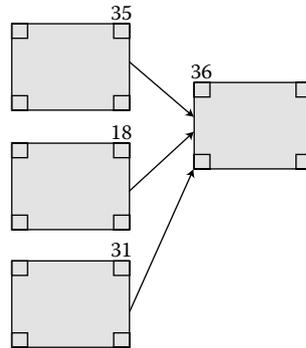
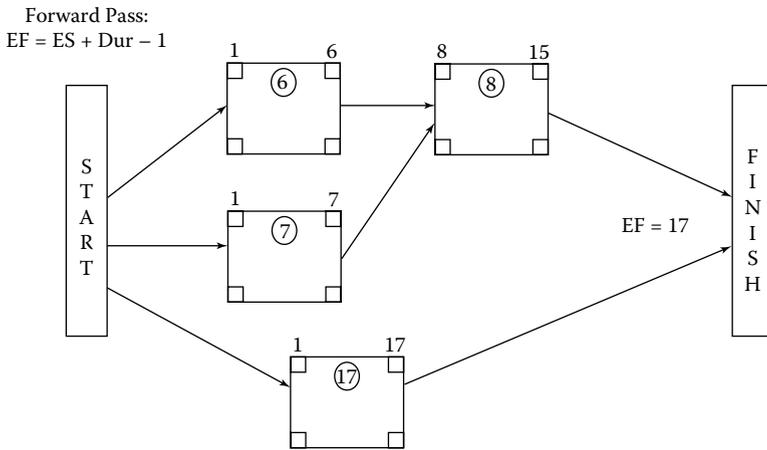

Figure 12.10 The “sink” activity.
Figure 12.11 A more complicated diagram.
An activity is called a sink if it calls for multiple predecessors’ activities. In this special case, the latest, early finish is incremented by one and it becomes the early start date for the sink activity. In the sink example in Figure 12.10, the latest early finish date of 35 becomes the early start date (35 + 1) for the sink activity. A more complicated diagram might help explain the forward and backward passes (Figure 12.11). The forward pass calculates the earliest the activities can start and finish and the latest early finish date of all ending activities becomes the early finish date (17) for the network (project).